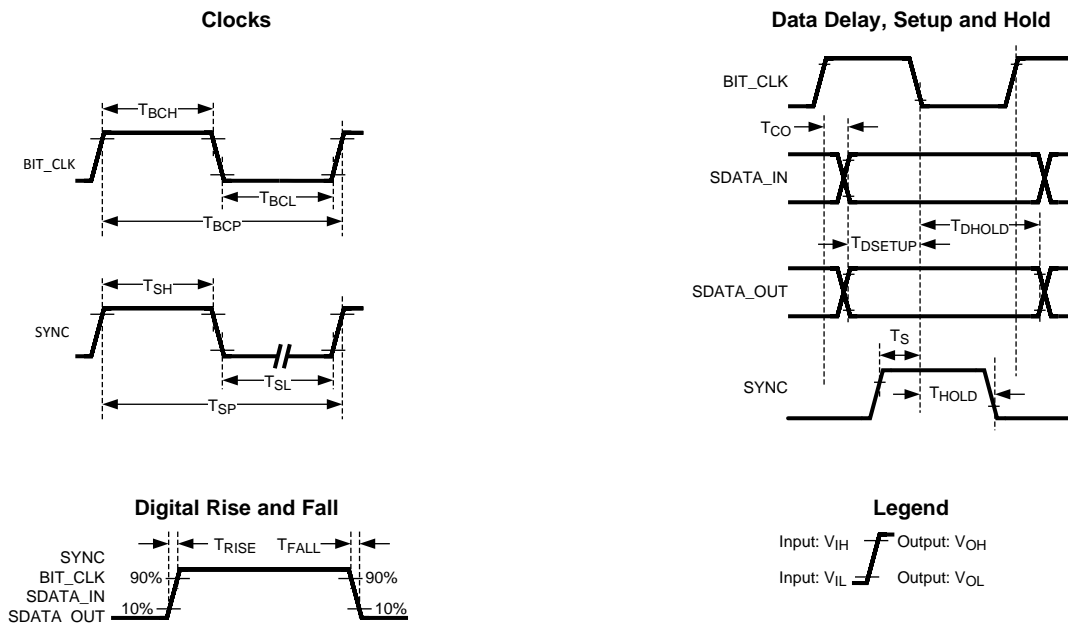

Figure 1. Power On Reset
- The LM4546B must be initialized by using RESET# to perform a Power-On-Reset as shown in Figure 1